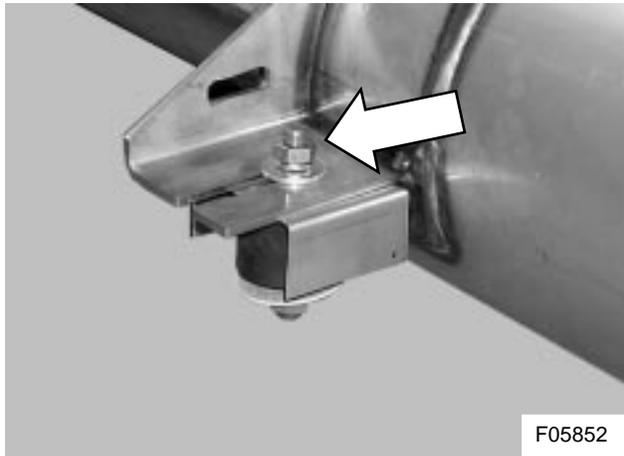

Figure 12: Top stud and bolt of right-hand rear most muffler support
- 1) Loosen and remove the nut from the top stud of the right rear most rubber isolator mount (see Figure 12). Remove the spring washer and plain washer as well.